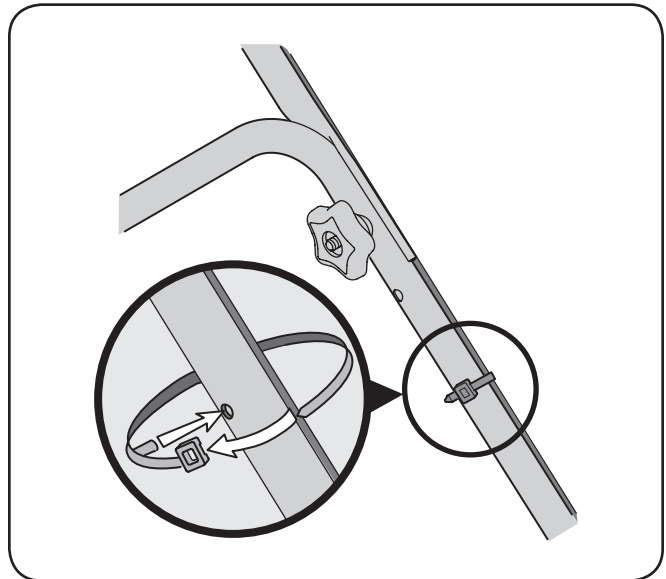

Figure 3-5
4. Use the cable tie provided to secure cable to the lower handle. Pull the cable tie tight and trim excess. See Fig. 3-5.